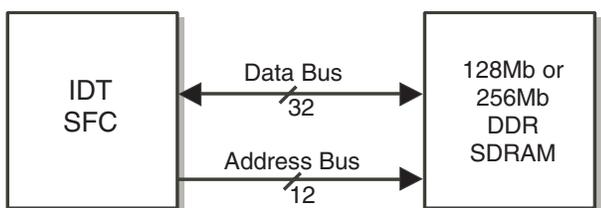

Figure 2a. Configuration 1 - Two Chip Solution
2. See Figure 2a-2g for the 7 different configurations referenced in the table above.
Below are the various chipset solution configurations available to the sequential flow-control device (see Figure 2a-2g). The external memory interface is designed to seamlessly connect one or more DDR SDRAMs. The output signal names should be connected directly to its corresponding input signal on the DDR SDRAM. There are three signals on the DDR SDRAM that must be tied to a static state. CKE,  $\overline{CS}$ , and DM. Table 4 outlines how to connect the many interface pins to the DDR SDRAM(s). Figure 3 and 4 are some examples of the memory interface connections for various density configurations. For information on DDR SDRAM layout recommendations, please see IDT application note AN-423.